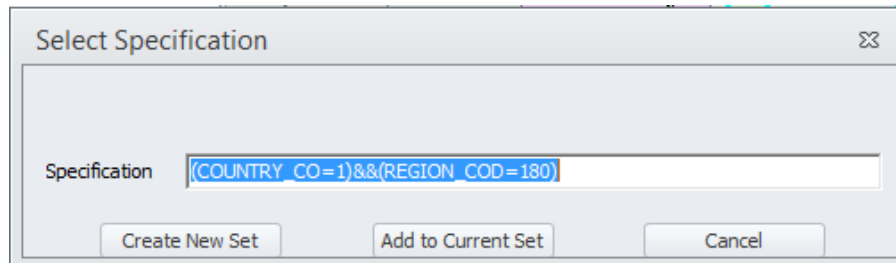

Figure 70 The Select Specification window.
- 3) In the Select Specification window, right click in the blank field to see the attribute list (note: it only shows attributes from the active layer – to access other attributes, select another layer in the TOC), and select the attribute for applying the condition (in the example in Figure 70, select the Stockholm region). For a list of the region and country codes, open the table Scenario Inputs\General tables\Zoning Systems in the Data Section window.